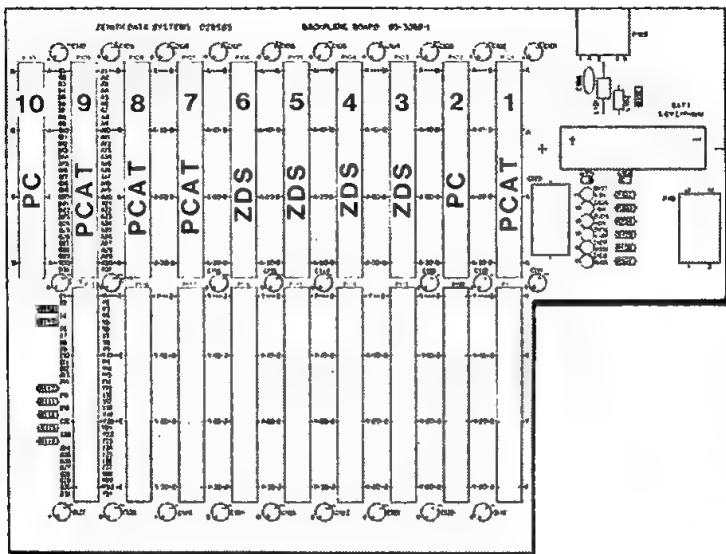

Figure 1-2: Computer Backplane
- **Backplane** — The backplane has four slots that house two 62-pin connectors (Zenith slots), four slots that are IBM PC AT compatible and two slots that are IBM PC-compatible. Refer to Figure 1-2 for location of the numerically referenced backplane slots. The edge connectors in the slots accept the cards, and interface them to a 16-bit PC AT compatible bus and an 8-bit PC-compatible bus.
- CPU/RAM card — This card is located in slot number 3 (Figure 1-2) on the backplane. The CPU portion of the card uses the 16-bit 80286 microprocessor and supports the 80287 numeric processor extension. Logic required to generate 16-bit bus control signals, address and data buffering, and data directing is contained on the CPU portion of this card. The CPU runs with one wait state added to all memory cycles for PC AT speed compatibility.